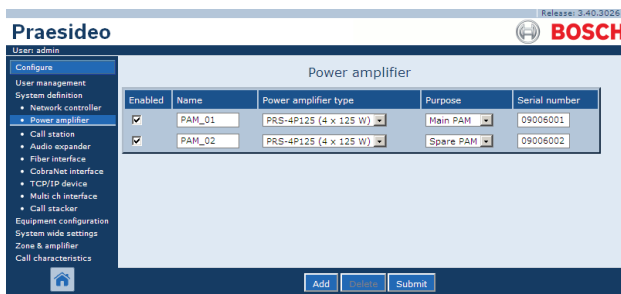

figure 42.8: Delete power amplifier, step 1
- Go to *Configure > System definition > Power amplifier*. A screen similar to the one in figure 42.8 appears in the main frame of the web interface.